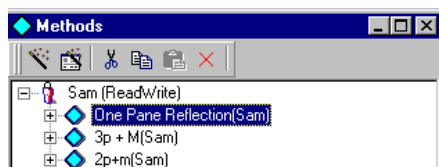

Figure 1 Methods Window
5. Select ‘Edit’ to produce the Methods Window, shown in Fig. 1.
In this example case, a User called “Sam” has logged into Laserssharp 2000, and “Sam” is therefore the only User displayed in the Methods Window, Fig. 1. “Sam” has Read/Write access, shown by displaying “(Read/Write)” after his user name. The three existing methods are entitled “One Pane Reflection (Sam)”, “3p + M (Sam)” and “2p+m (Sam)”.